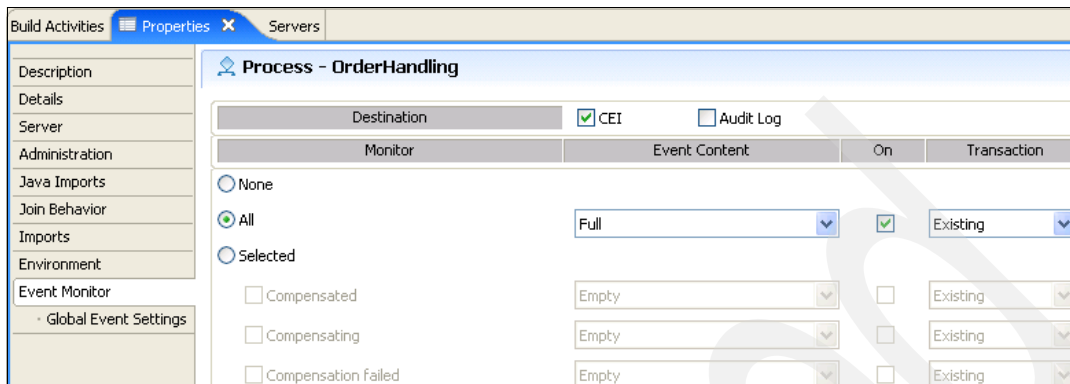

Figure 5-13 Process event selection
- Click the **Properties** tab of the Order Handling process and then click the **Event Monitor** subtab. Select **All** (Figure 5-13).